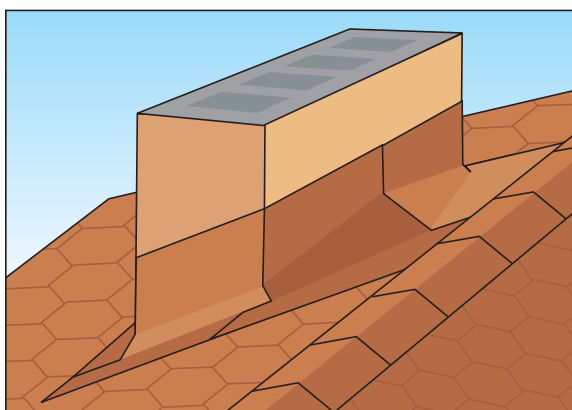

Fig. 1
- It is recommendable to build a counter-slope in the roof decking at the head of a penetration for a wide chimney or set of flues, so that water does not accumulate behind the chimney (Fig 1).